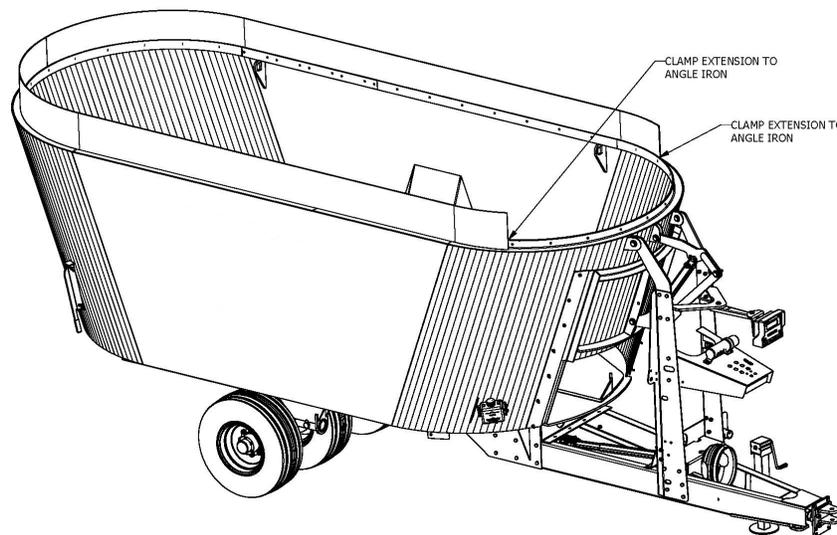

Figure 18 Securing First Extension Section
4. Wrap the two ends around the angle iron as shown in Figure 18 below. Clamp both ends to the angle iron, making sure that the extension is pulled as tight as possible.